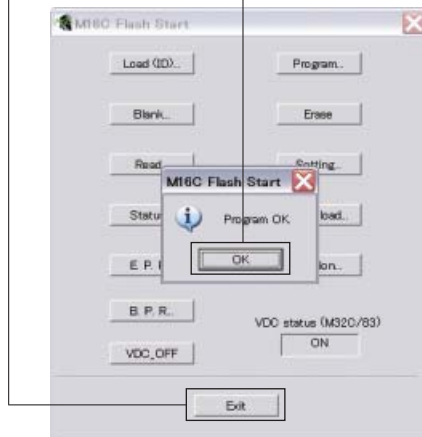

Fig. 6
9. When writing of the firmware is completed, the screen appears as shown below. (Fig. 6)
Click [OK]. (Fig. 6)
10. Click [Exit] to end FlashSta.exe. (Fig. 6)
[OK] をクリックします。(Fig. 6)
10. [Exit] をクリックし、FlashSta.exe を終了します。(Fig. 6)